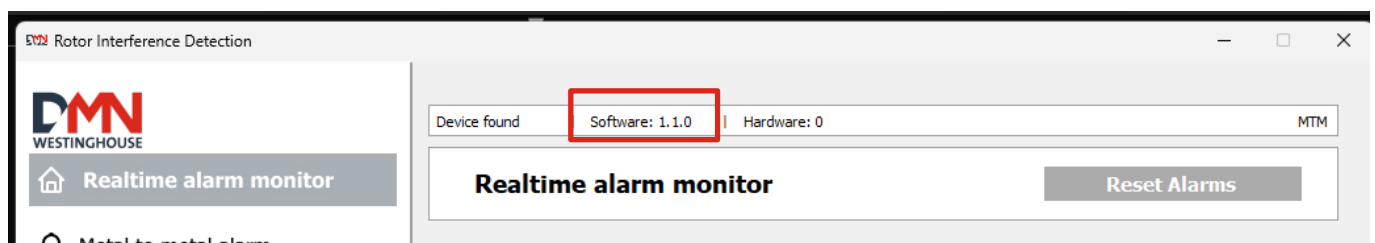

Figure 7 Firmware check service tool
17. Double-check the firmware-version via the RID service tool (see Figure 7).